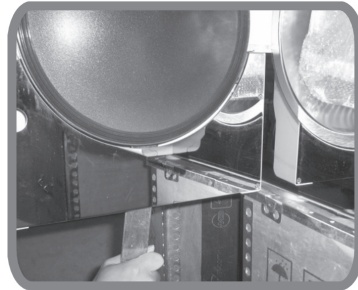

Figure 7-2
- Insert the spanner in the gap beneath the plastic cover; use the spanner to lock on the adjusting nut (Fig. 7-2). Turn the nut counter clockwise as the figure below (Fig. 7-1). This will tighten the sealing plate.